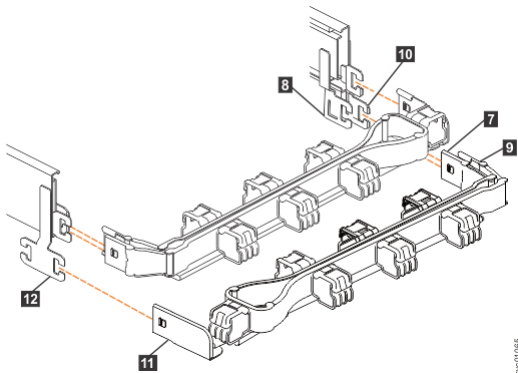

Figure 77. Comparing the location of the components of the CMA assemblies
**Note:** The procedure for attaching the lower CMA assembly is the same as the procedure to attach the upper CMA assembly. However, the connector locations are reversed. For comparison, Figure 77 on page 65 shows the upper and lower CMA assemblies as they are aligned to the support rails. The support rail connector of the upper CMA attaches to the right rail. The support rail connector of the lower CMA (11) attaches to the left rail.
5. Install the inner connector of the lower CMA assembly (**7**) to the inner member of the right support rail (**8**), as shown in Figure 77 on page 65.
6. Install the outer connector of the lower CMA assembly (**9**) to the outer member of the right support rail (**10**), as shown in Figure 77 on page 65.
7. Attach the support rail connector on the lower CMA assembly (**11**) to the connector on the left support rail (**12**), as shown in Figure 77 on page 65.